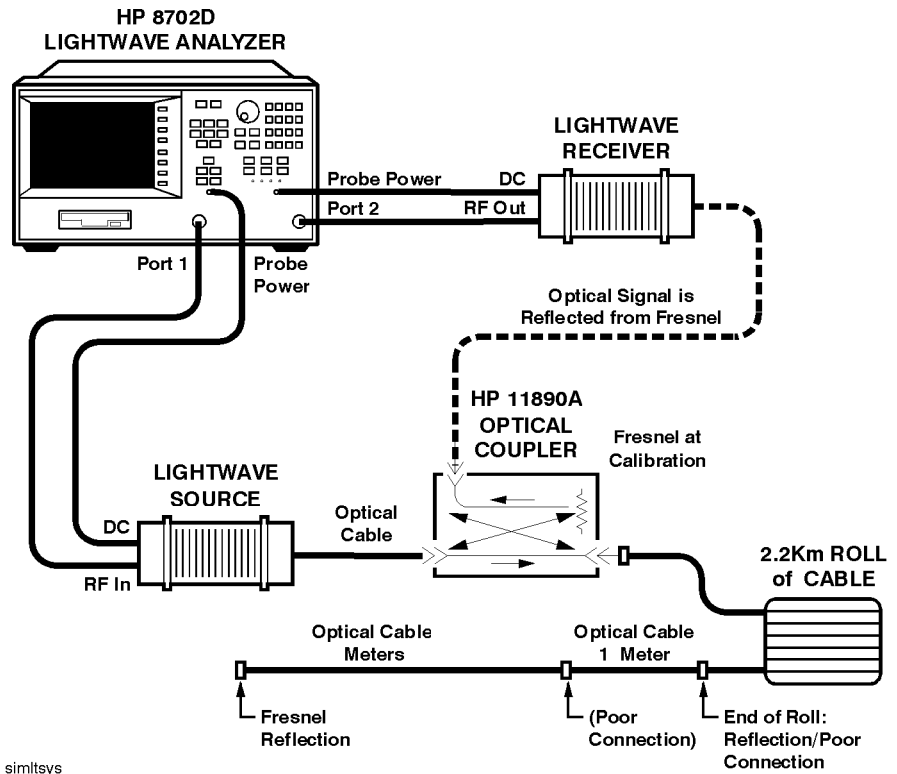

Figure 5-5. Simulated Lightwave System Fault Location Configuration
- 1 Connect the system as shown in Figure 5-5. You will have to clean the connectors on the coupler and also clean the connectors on the cables for the most accurate results. Refer to “Cleaning Connections for Accurate Measurements” on page 1-33.